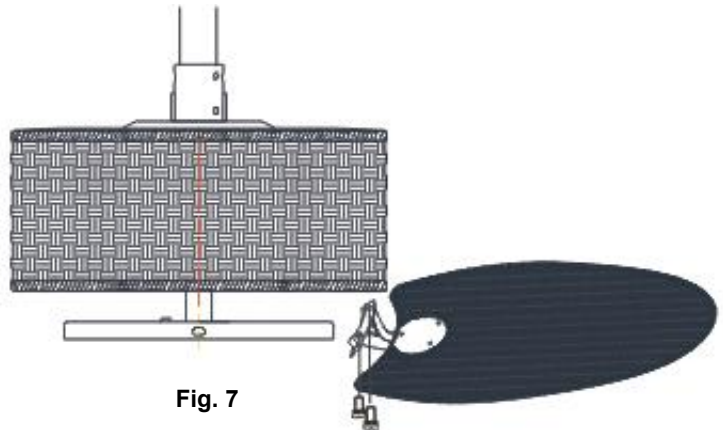

Fig. 7
3. Secure the blade on the motor by tightening 2 screws with washers. Ensure all screws are tightened evenly to reduce the chance of warping or unbalancing. (Take care not to over tighten as this can damage blades). Repeat the process on remaining blades. (Fig.7)